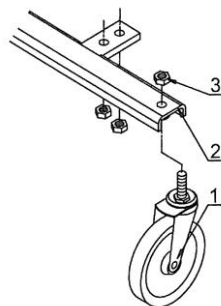

Fig. 1
1. Attach caster assembly (#1) to beam 1 (#2) using M12 nuts (#3) (Fig. 1).